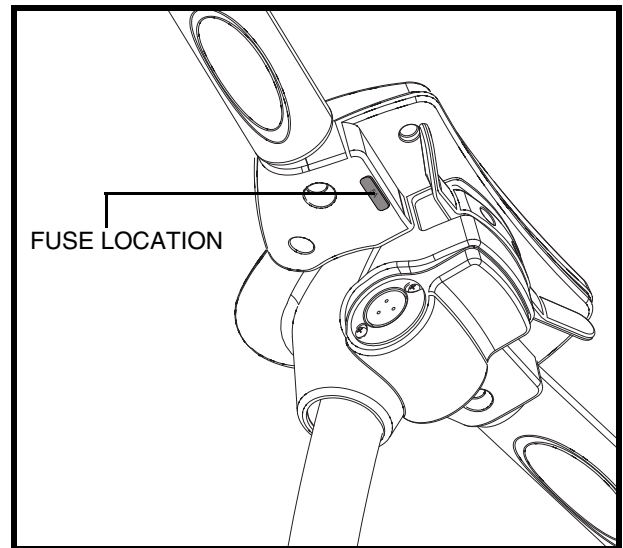

Figure 6. Off-board Charger Fuse
The fuse located on the underside of the tiller console protects the batteries during charging. See **figure 6**. In the event the batteries will not charge, check this fuse. See VIII. "Basic Troubleshooting" for fuse replacement instructions.
- Ensure that the fuse on the tiller console is in working condition. **See figure 6.**